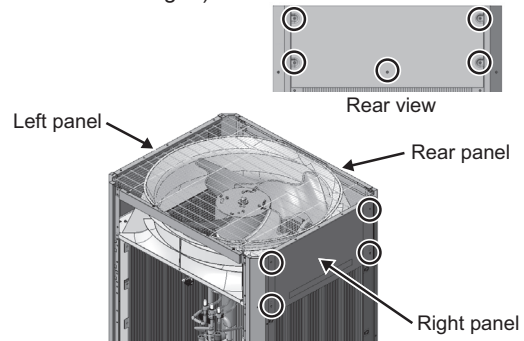

Fig. 5
- (5) Remove the top panel except the front panel. (Four screws on the left and right each, and five screws on the rear: Fig. 5)